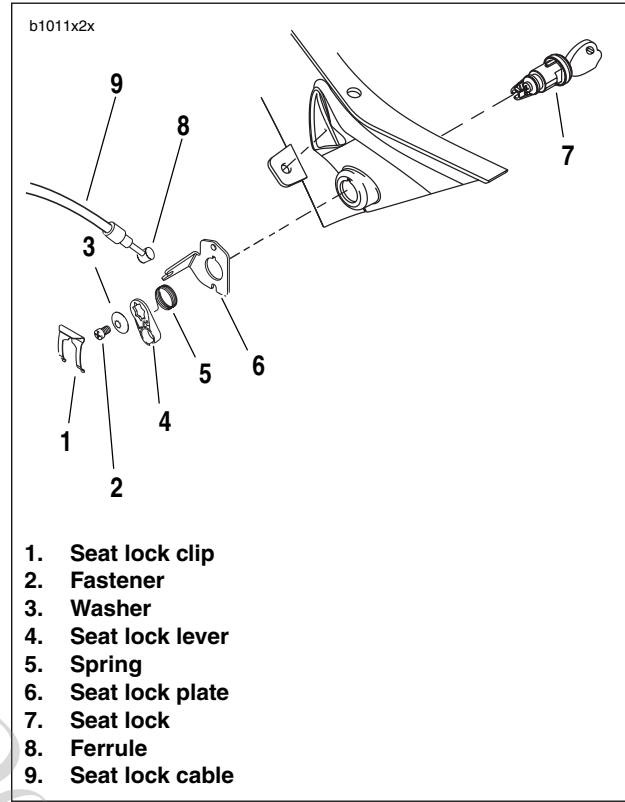

Figure 2-128. Seat Lock and Cable Assembly
3. See Figure 2-128. Disconnect passenger lock cable (9) by removing cable from seat lock plate (6) and ferrule from seat lock lever (4).
4. Remove seat lock lever (4) by removing fastener (2) and washer (3) from seat lock (7).
5. Remove spring (5).
6. Remove seat lock clip (1) by sliding from seat lock plate (6).
7. Remove seat lock plate (6) and seat lock (7).
1. See Figure 2-128. Install the seat lock (7) on to upper tail body work.
2. Install seat lock plate (6) by aligning plate tab onto seat lock (7).
3. Install seat lock clip (1) by sliding clip aligning clip groove onto seat lock plate (6) tab.
4. Position short tab of spring (5) into seat lock notch.
5. Position long end of spring into the seat lock lever (4).
6. Load the spring (5) by turning the seat lock lever (4) counterclockwise 1/4 turn.
7. Once the spring is loaded, install the seat lock lever (4) onto the lock aligning the lever to the square groove that is cast into the seat lock (7).
8. Fasten the lock lever (4) to the seat lock (7) with the washer (3) and fastener (2).
9. Install the ferrule (8) of the seat lock cable (9) into the seat lock lever (4).
11. Install the seat lock cable (9) into the seat lock plate (6).